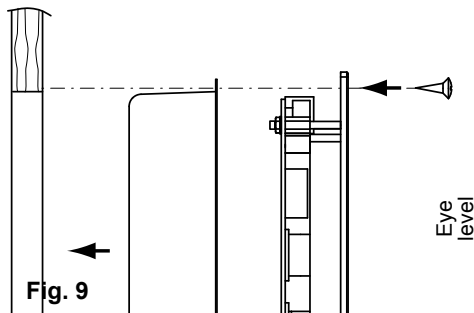

Fig. 9
1. Three 2 mm diameter boreholes for the supplied wood screws 4 x 20 mm and a 28 mm diameter borehole for the line feed-through are drilled according to the dimensions shown in Fig. 9 and 9a.